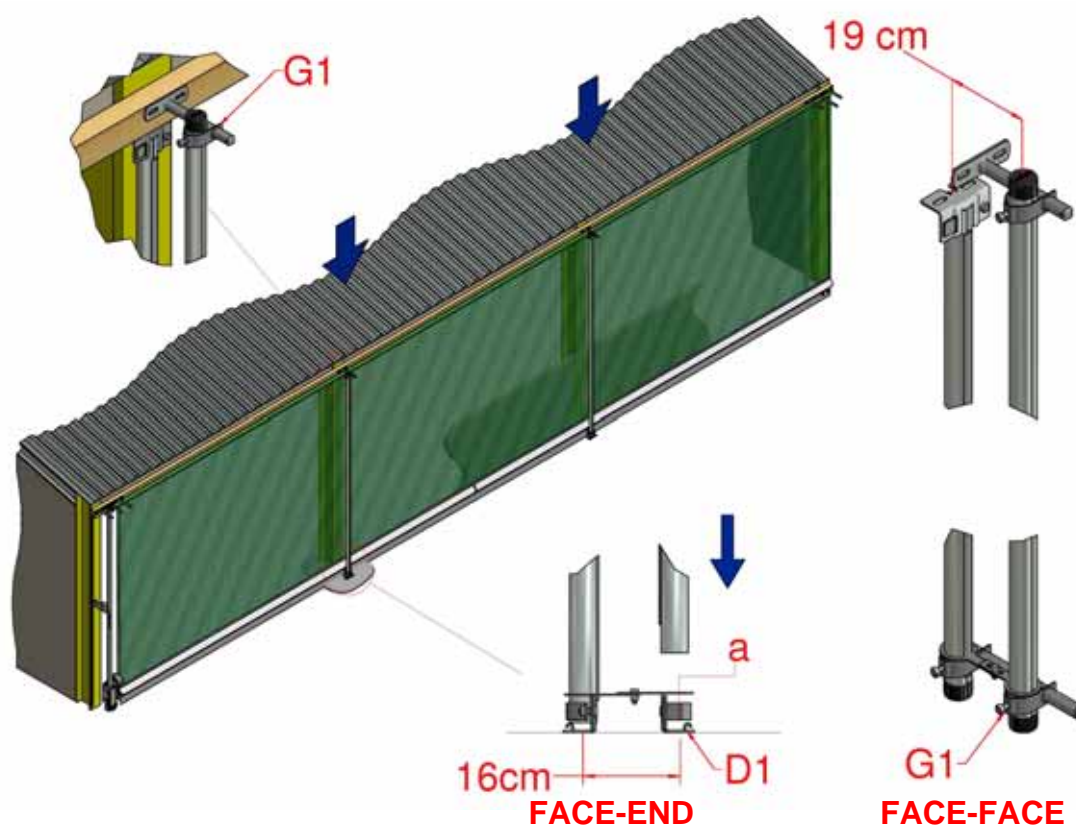

Figure 19, Outer Control Tube Installation
- 4.8 Fit all intermediate outer Control Tubes between the upper and lower brackets, not including those for the End Covers, as shown in Figure 19. Cut the fitted Face Brackets to length (if desired) and complete by fitting protective black caps (T1) to free ends of tubes